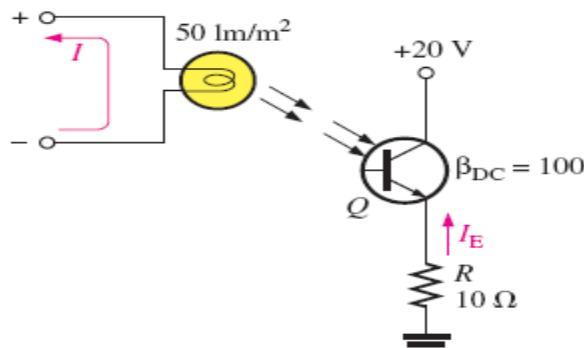

Figure 4–60
34. The optical coupler shown in Figure 4–61 is required to deliver at least 10 mA to the external load. If the current transfer ratio is 60 percent, how much current must be supplied to the input?